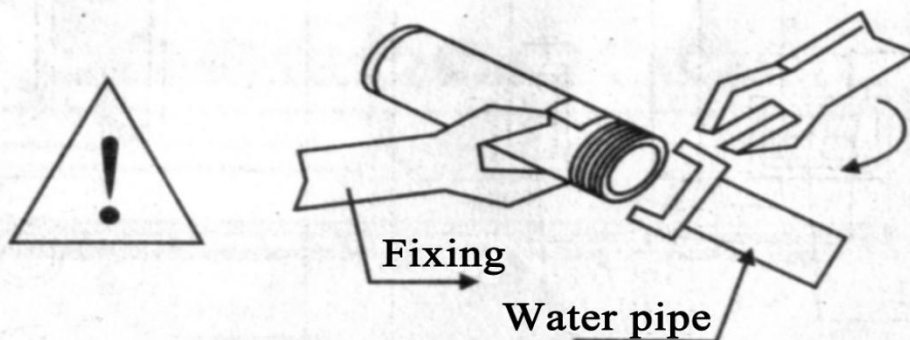

Fig.9
- ④ The outside pipes need over 50mm warm-keeping to avoid being frozen in winter.
- ⑤ While connecting pipes, do not use too big force.. (Fig.9)